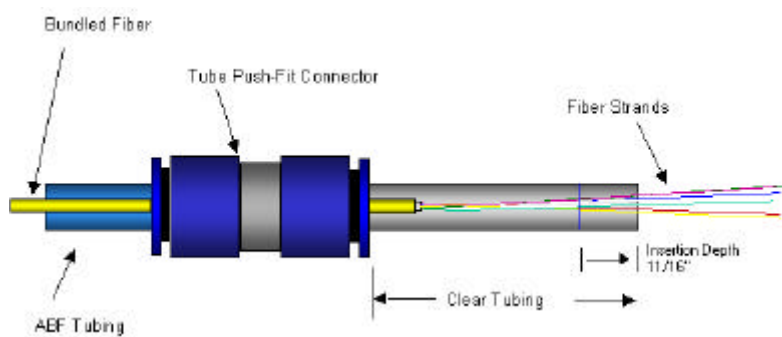

FIGURE 2. Clear BOF tube and fibers.
- b. Insert the individual fibers into the tube coupler. Slide the tube coupler and 3" piece of clear BOF tubing over the fibers to the main BOF tube. Apply a thin layer of caulking compound around the last 6 mm (0.25 in) of the main BOF tube. Slide the tube coupler onto the BOF tube and firmly seat the tube within the tube coupler (see figure 2). Apply an axial load of approximately 22 N (5 lbs) between the two BOF tubes to verify that the tube coupler is properly engaged onto the tubes.